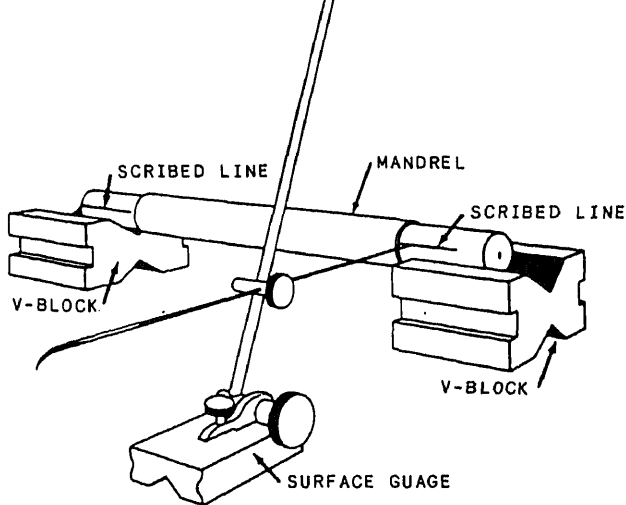

Figure 11-67.—Layout of the work.
2. Place the work on a pair of V-blocks, as shown in figure 11-67.
3. Set the scribe point of the surface gauge to the center height of the work. Scribe horizontal lines on both ends of the work, as illustrated in figure 11-67.